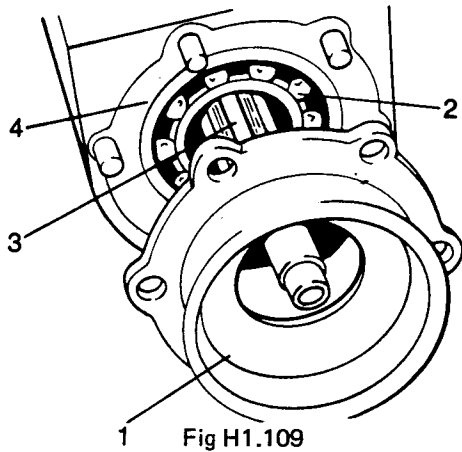

Fig H1.109
- (1) Refer to Fig H1.109. Fit the oil seal (1) in its housing, with the lip towards the box. If the oil seal has a metal cage, apply sealing compound to the outside.
- (2) Fit the output shaft bearing (2) to the casing until it butts up against the housing.
- (3) Introduce the front output shaft (3).
- (4) Fit the oil seal housing gasket (4) applying to both faces a film of sealing compound.